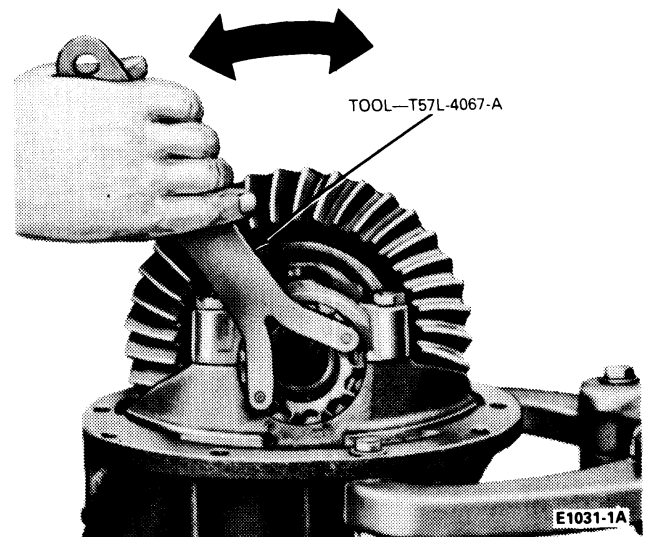

FIG. 43 Backlash Adjustments
2. **The left adjusting nut is on the ring gear side of the carrier. The right nut is on the pinion side.** Loosen the right nut until it is away from the cup. Tighten the left nut until the ring gear is just forced into the pinion with 0.000 backlash, then rotate the pinion several revolutions to be sure no binding is evident. (Recheck the right nut at this time to be sure that it is still loose. **Tightening the left nut moves the ring gear into the pinion to decrease backlash, and tightening the right nut moves the ring gear away (Fig. 43).**